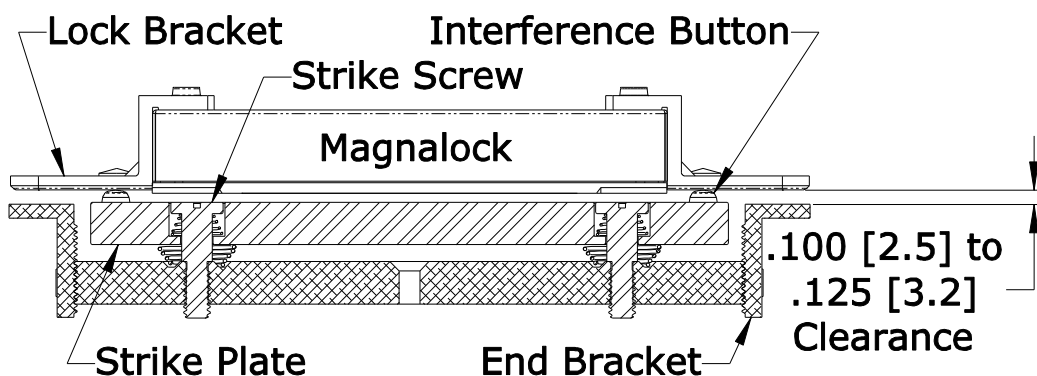

Figure 10 - Magnalock and strike assembly (side view)
De-energized adjustment of the strike height is important for proper door/lock operations. The example in **Figure 10** illustrates the Magnalock with the proper adjustment. Without power applied to the Magnalock, both of the (conical) interference buttons should just clear the lock brackets. Check this by opening and closing the door. To adjust the clearance to be closer, turn each of the strike adjustment (shoulder) screws (located in the center of the strike) counter-clockwise 1/4 turn, one at a time and recheck the clearances. (Both screws do not have to be adjusted the same amount of turns). The adjustments should be made independently so that the strike level is uniform to the door frame and Magnalock installation. **The strike screws are allowed up to two (2) full turns of adjustment each.** If the adjustment required is two (2) full turns or greater, then tighten the screws clockwise back to the down position, loosen the end bracket screws and adjust the end brackets the amount of notches necessary to enable the final adjustments. Repeat adjustments as necessary until a properly functioning gap setting is achieved.